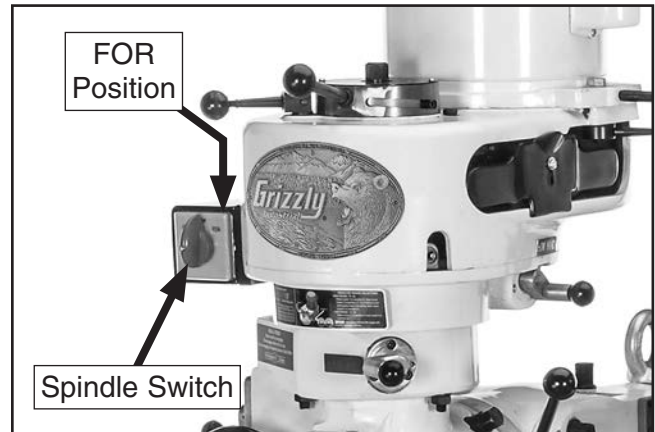

Figure 25. Model G0796 spindle switch.
8. Rotate spindle switch to FOR (forward) position (see **Figure 25** or **26**).